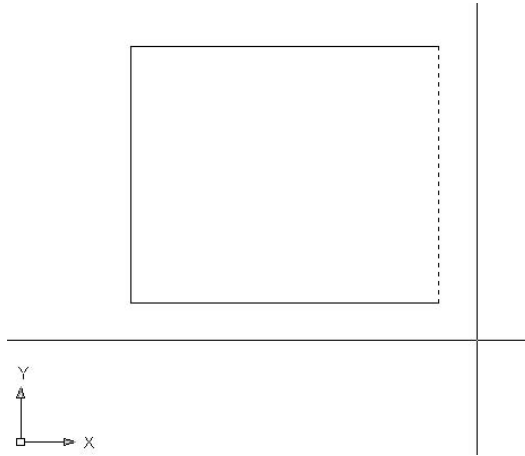

FIGURE 2.10: The first line to be offset is selected.
3. Place the pickbox on one of the lines and, when it highlights, click. The selected line ghosts (see Figure 2.10), the cursor changes back to the crosshair, and the prompt changes to **Specify point on side to offset or [Exit/Multiple/Undo] <Exit>: .** AutoCAD is